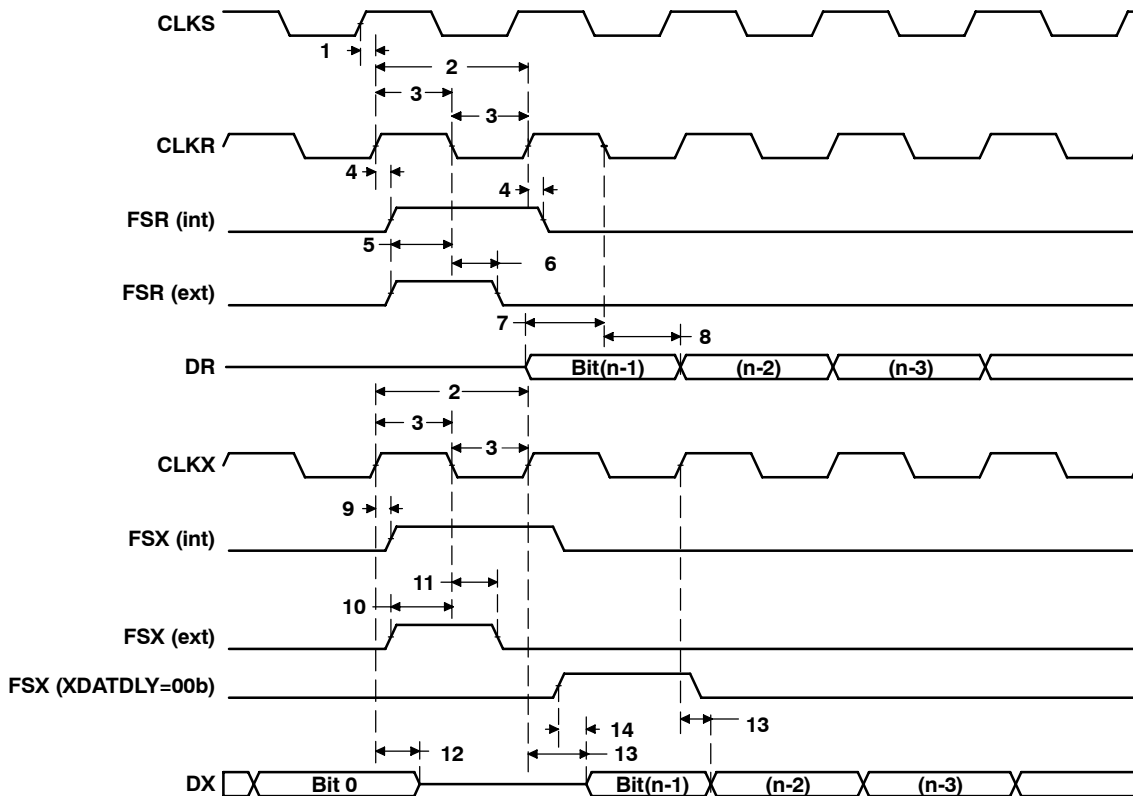

Figure 32. McBSP Timings
**timing requirements for McBSP†‡(see Figure 32)**
### switching characteristics for McBSP†‡§ (see Figure 32)